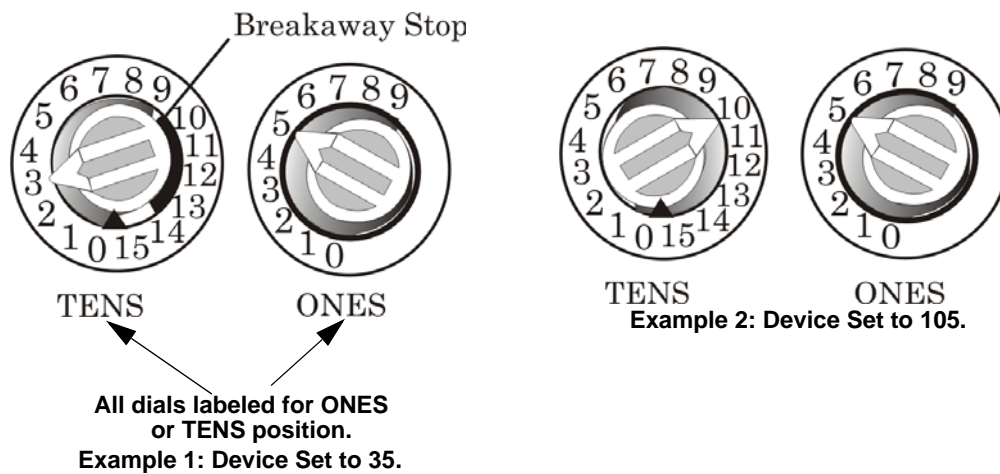

Figure 7-5 IDP SLC Device Addressing Using Rotary Dials
**Example 1:** To select device address 35, turn the *ONES* rotary dial to **5** and the *TENS* rotary dial to **3** as shown in Figure 7-5.
**Example 2:** To select device address 105, turn the *ONES* rotary dial to **5** and the *TENS* rotary dial to **10** as show in Figure 7-5.